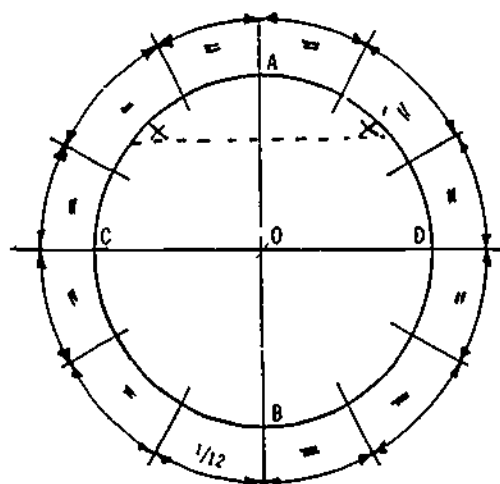

Figure 5-17. Dividing a Circle into 12 Equal Parts
**Divide a circle into 12 equal parts** Locate the centre of the circle (Figure 5-17). First draw a chord  $x-x'$  and bisect it. Extend the bisector to intersect the circumference at A and B. Bisect AB and extend the bisector to intersect the circumference at C and D. Using radius OB and centres A, B, C and D, describe arcs intersecting the circumference; the resulting divisions are each equal to  $1/12$  of the circumference. (Outer circle illustrates that each division is equal).